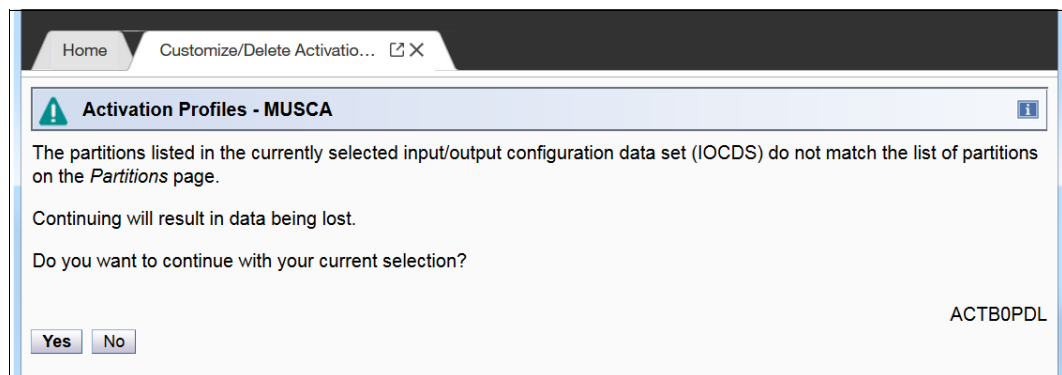

Figure 5-18 Activation Profiles: ACTB0PDL message
8. Click the IOCDS that you updated in the previous step. The ACTB0PDL message is displayed (see Figure 5-18).